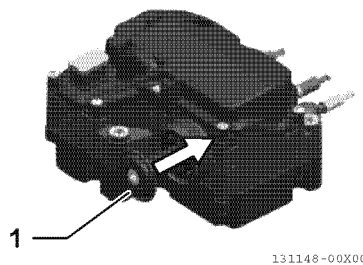

Fig.25-48
- 10 - Insert a new equalizing element (1, Fig.25-48).